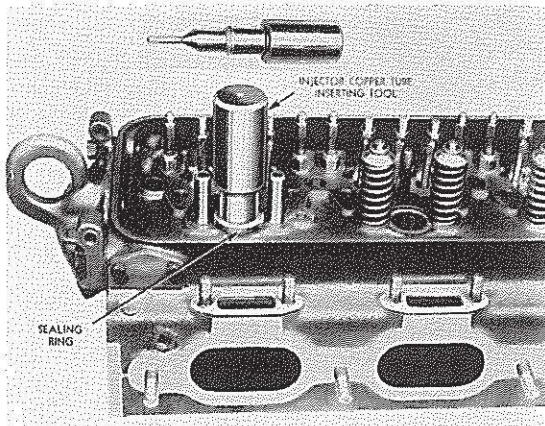

FIG. 26
2. Drive tube into position with special tools as shown in Fig. 26, taking great care that the small end of copper tube enters the hole without striking the